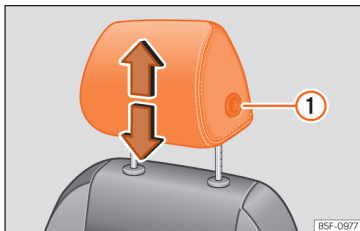
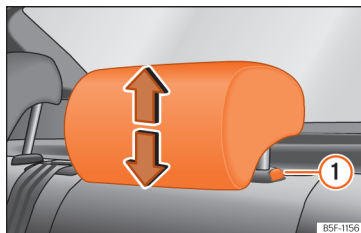

Fig.75 Front seat: adjusting the head restraint.
Fig.76 Rear headrest: adjusting the headrest.
- Grab the sides of the head restraints with both hands and push upwards to the desired position. To lower it, repeat the same action, pressing the button on the side (1) »» Fig.75 , »» Fig.76.